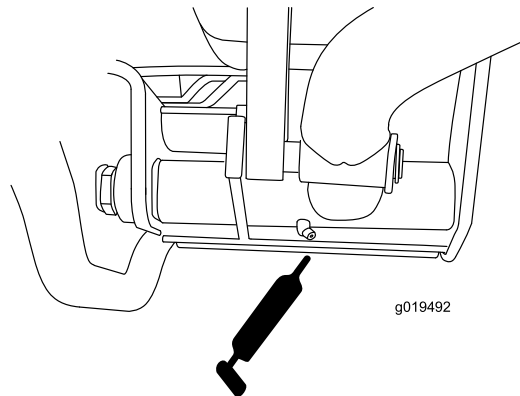

Figure 51
- Rear lift arm pivots (2) (Figure 51).